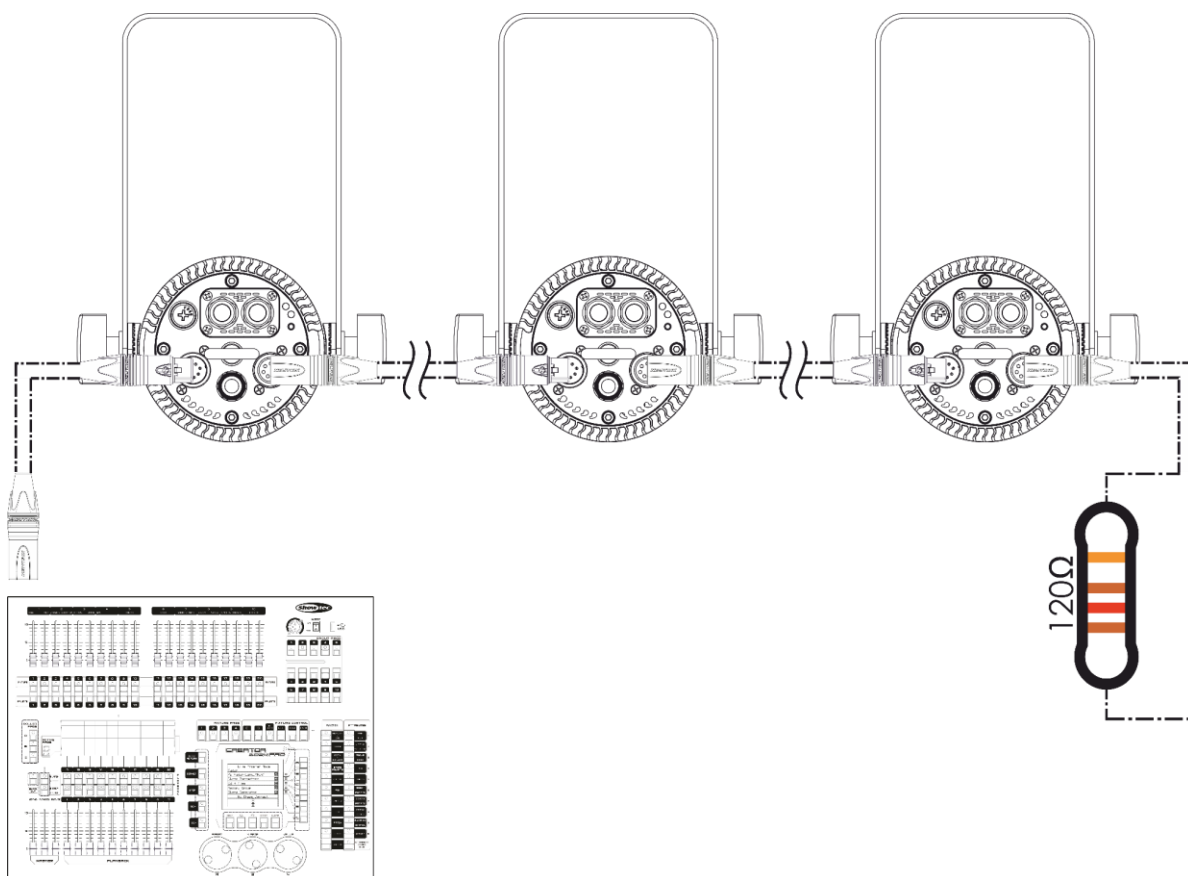

Fig. 13
- 03) Repeat step 2 to connect all devices in a daisy-chain as shown in Fig. 13.